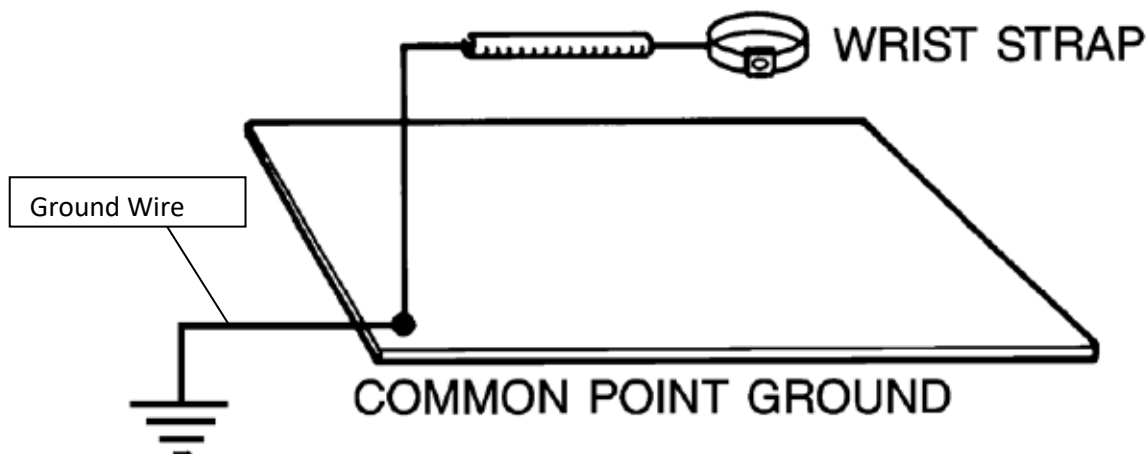

Figure 1: Connection of ESD Workstation Mat to the Common Ground and to the Wrist strap
2. Connect the Workstation ESD mat common point ground to earth ground, or auxiliary ground point using the ground wire (black in color) provided. Refer to the diagram in Figure 1 and Figure 2 below.